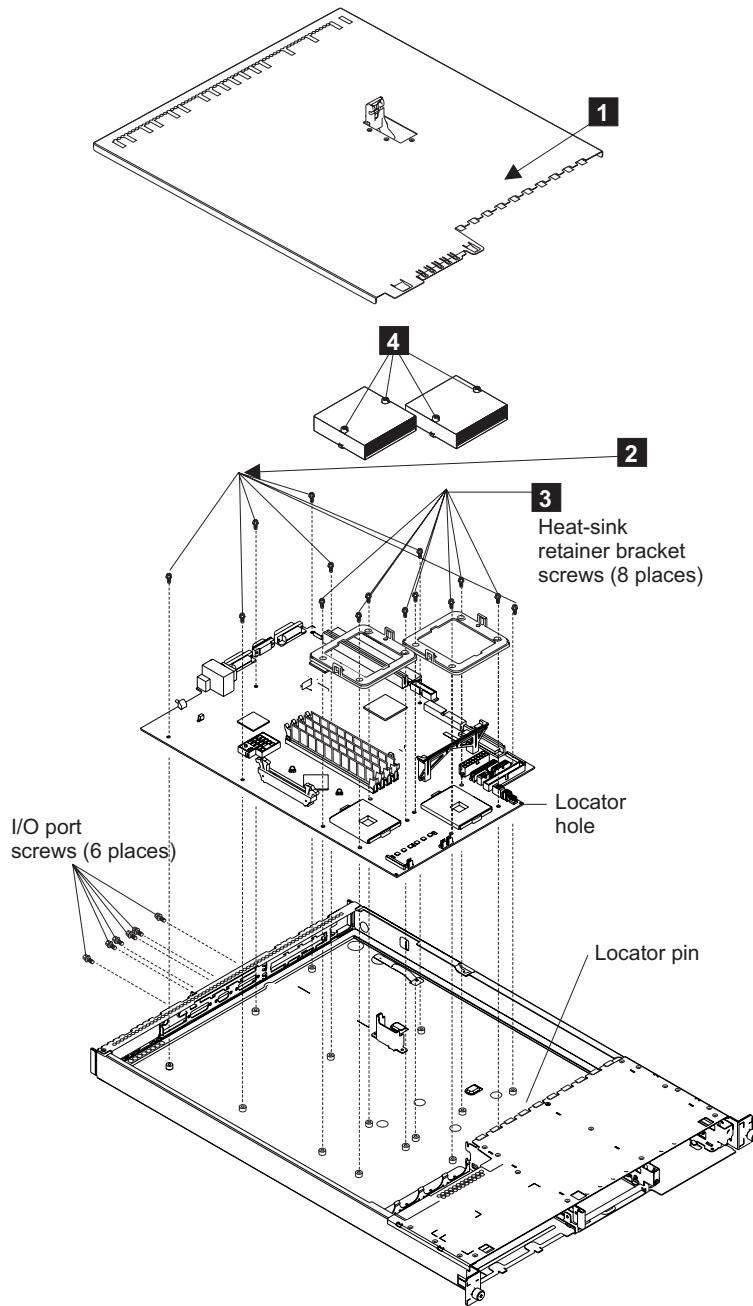

Figure 174. Replacing the system board
1. Replace the seven screws **2**. See Figure 174 on page 440.
4. Replace the screws from each of the heat sink retainer brackets **3**. See Figure 174 on page 440.